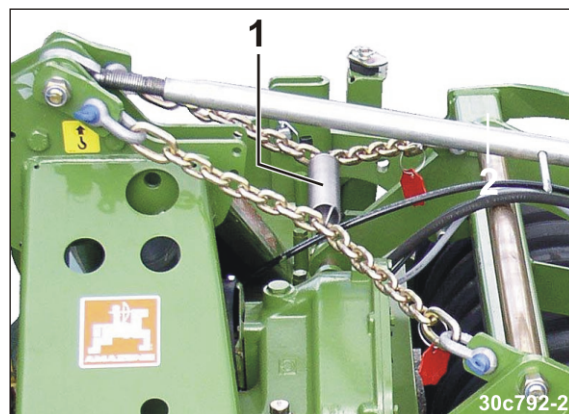

Fig. 86
6. Connect the chains using a tension spring (Fig. 86/1). When untensioned, the chains should not touch the tower of the soil tillage implement.